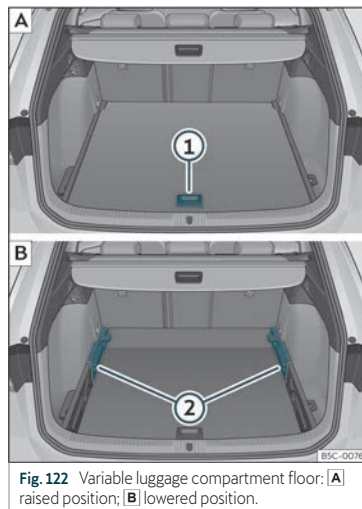

Fig. 122 Variable luggage compartment floor: **A** raised position; **B** lowered position.
»» **Fig. 122** **1**, and pull it back until the front of the floor has fully passed the supports
»» **Fig. 122** **2**.
- Lift the variable floor in the high position using handle»» Fig. 122 ①, pull it up and push it towards the backrest of the rear seats until it folds along the hinge line and the movable part of the floor is resting on itself.